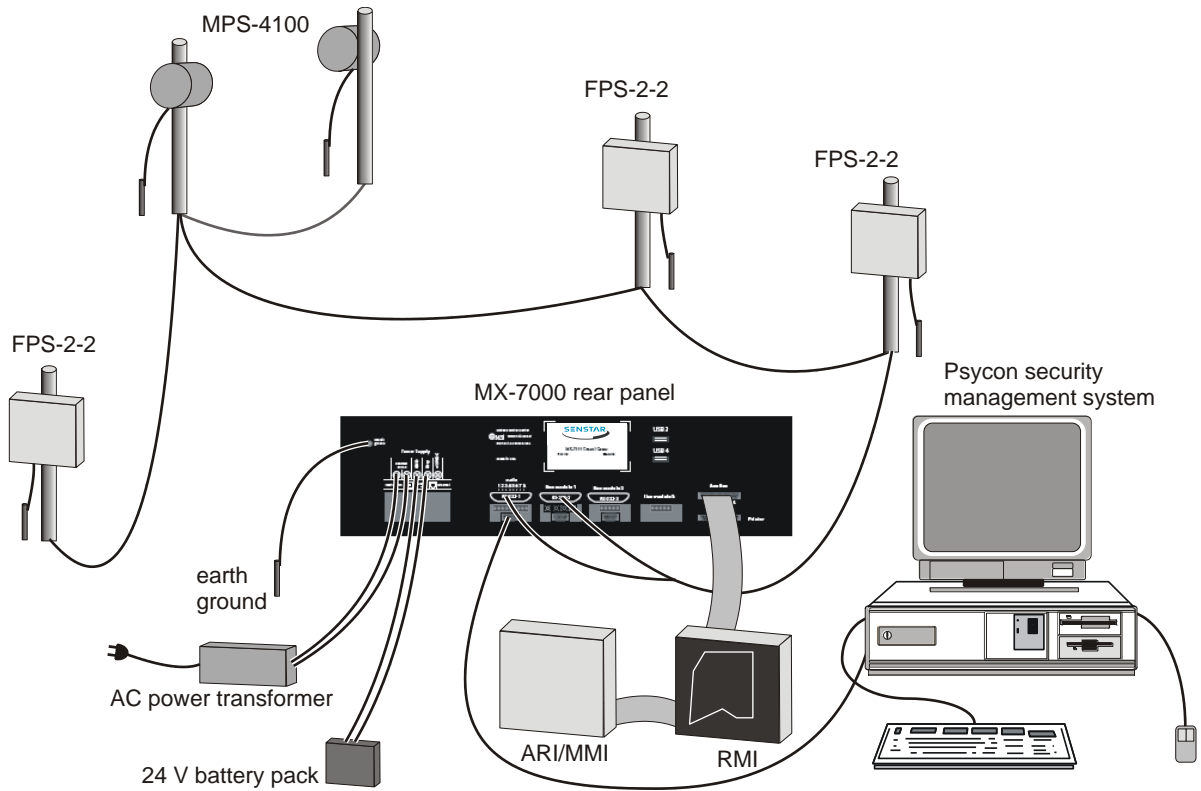

Figure 6 Typical MX-7000 FPS/MPS-4100 system connections
Figure 6 shows the typical copper wire loop interconnection of MX-7000 system components.
2. Connect the FPS/MPS MX copper transponder loop cable to the MX-7000 rear panel as shown in Figure 6 and Figure 22. If there are multiple loops, connect each to the appropriate MX loop card.